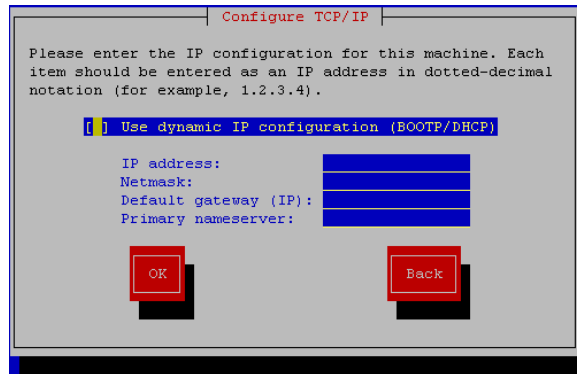

FIG. 17 MAX Admin Menu - Configure TCP/IP
- To edit these settings, press **Yes** to proceed to the next screen, and press **Yes** again to access the **Configure TCP/IP** screen (FIG. 17).